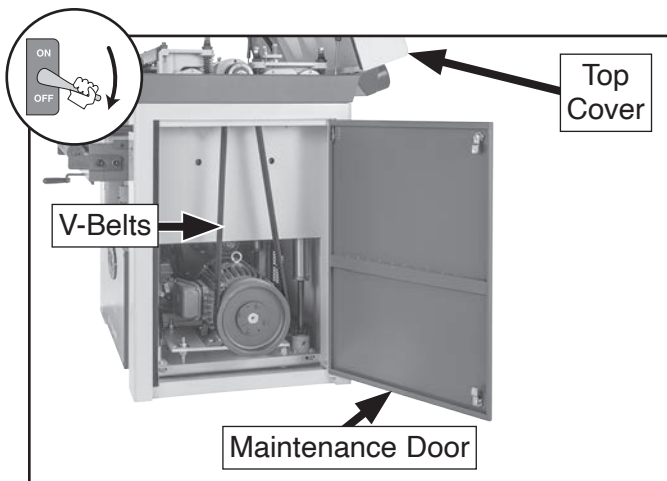

Figure 76. Top cover and maintenance door open.
2. Open top cover and maintenance door, as shown in **Figure 76**.